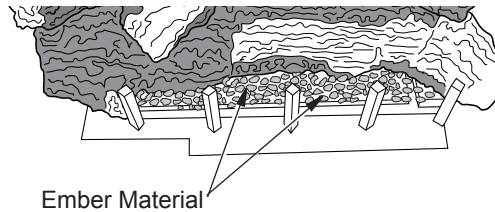

Figure 50 - Placing Ember Material on Burner
9. Pull ember material apart into pieces no larger than a dime. Place these pieces loosely and sparingly directly onto the exposed section of the front burner and along the space between the burner and grate prongs (see Figure 50). This will create the glowing ember appearance as the flame touches the ember material. Do not block air slots by using too much ember material in one area. It is not necessary to use all of the ember material provided.